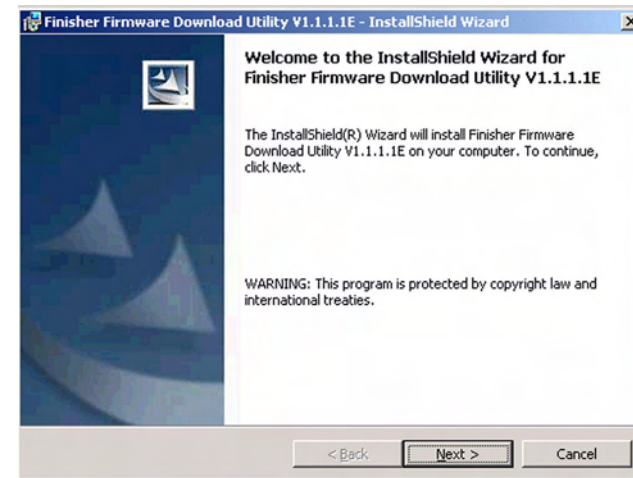

Figure 1 Welcome Screen
- d. When the Welcome Screen appears, select Next (Figure 1).